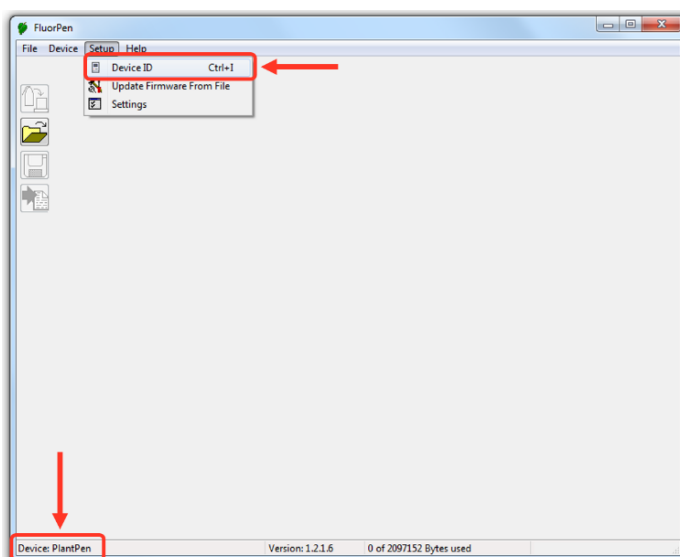

Fig. 15 Connecting PlantPen with software.
5. In the software select: **Setup > Device ID (Ctrl+I)**. If properly connected, the message “Device: PlantPen” appears in the bottom part of the screen (Fig. 15). If the connection is not successful then message “Device not found” will appear. In the latter case check all the connections (USB) and Bluetooth pairing.